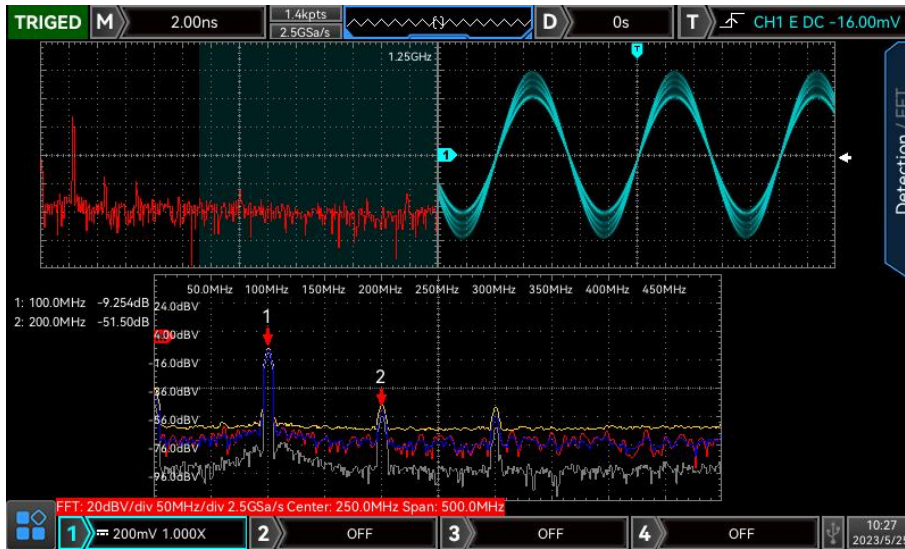

Figure 15-1
a. Split screen: Display the source waveform and the waveform of FFT spectrum waveform in split screen, and extend display the spectrum. As shown in Figure 15-1.